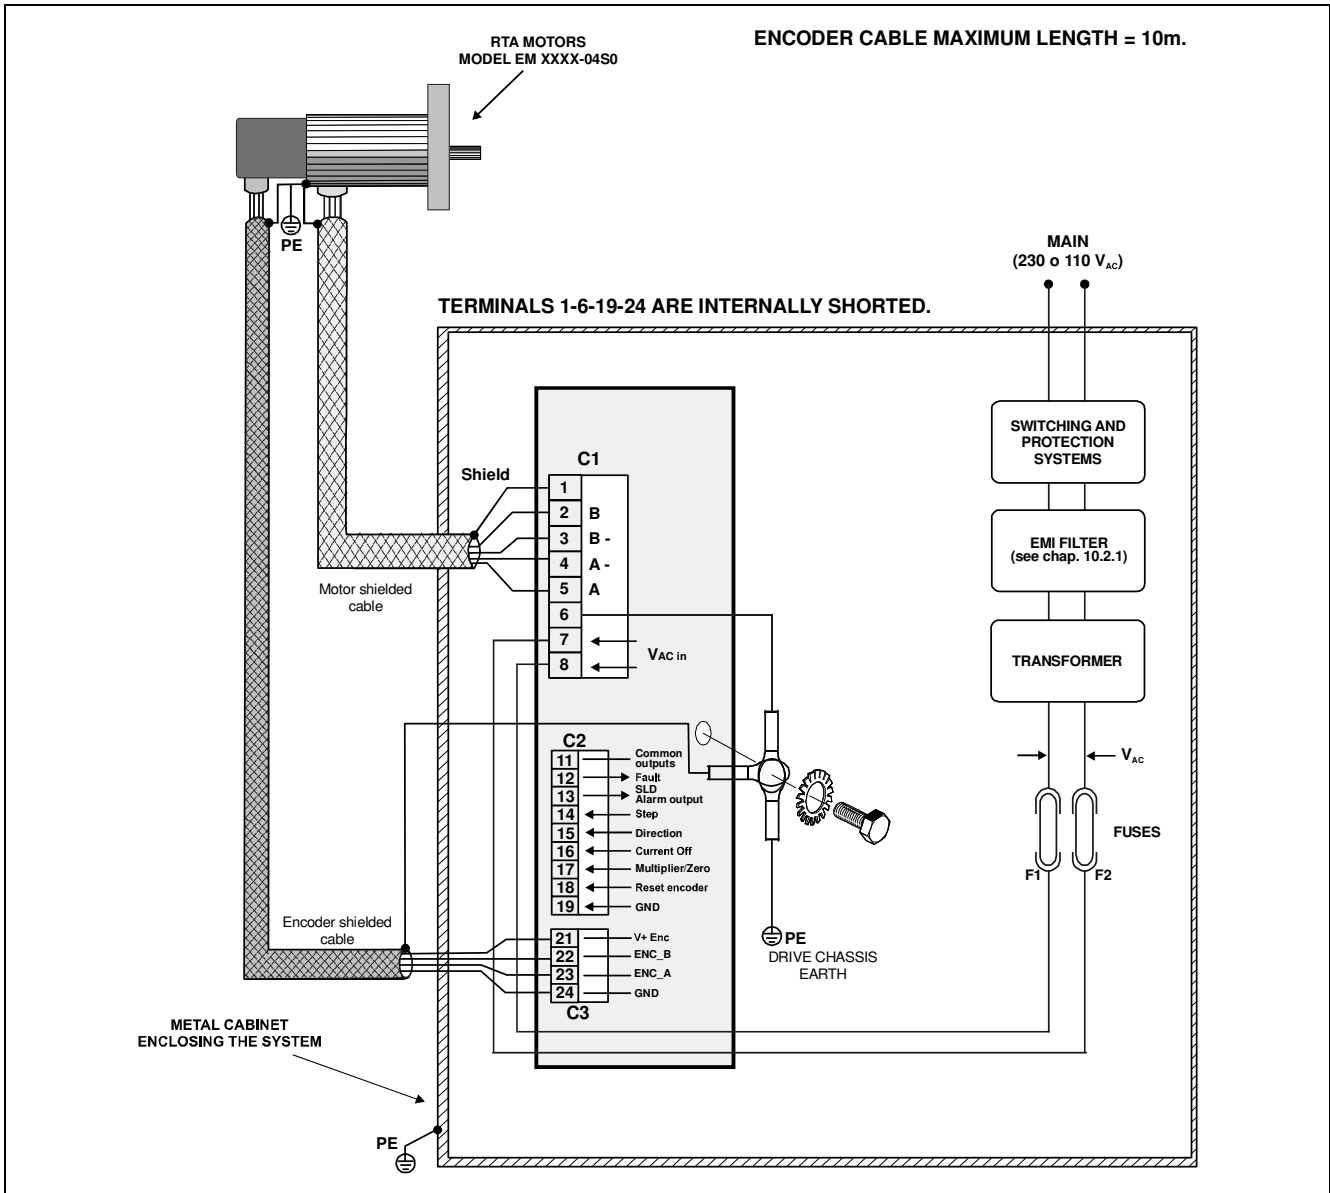

Fig. 6 – Drive external connections scheme.
- 7.3- The use of one secondary winding for more drives (max 3 drives) is allowed only if the total power required by the drives is less than 600VA. In any case, two fuses (F1 and F2 showed in Figure 6) for each drive must be used.
- 7.4- **Branch circuit protection fuses F1 and F2 (see Fig. 6) must be 10 Amp, at least 250 Volt with I^2t between 150 A^2s and 400 A^2s (for example Cooper Bussman model KTK-R-10 or Littelfuse 215010.P).**
- Connect earth line to motor chassis. To reduce the radio-frequency emissions, the mechanical connection of motor to machine chassis (by means of mounting flanges and screws), is typically simple and effective solution. In this case, both screws and chassis must be of conductor material and the chassis must be connected to earth. See Fig. 6.
- Use shielded cables with shield connected to terminal PE (see Fig. 6).